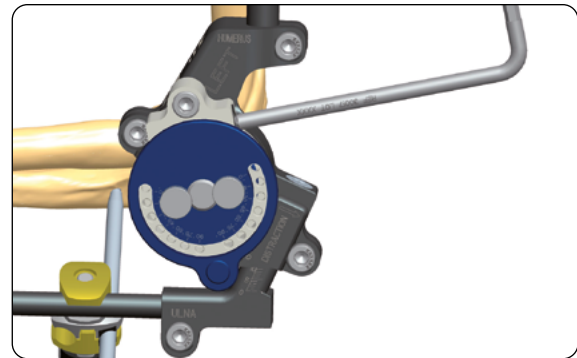

Fig. 3
2) Passive flexion and extension is achieved by turning the worm-screw clockwise or counter-clockwise with the 5mm Allen Wrench (**Fig. 3**).